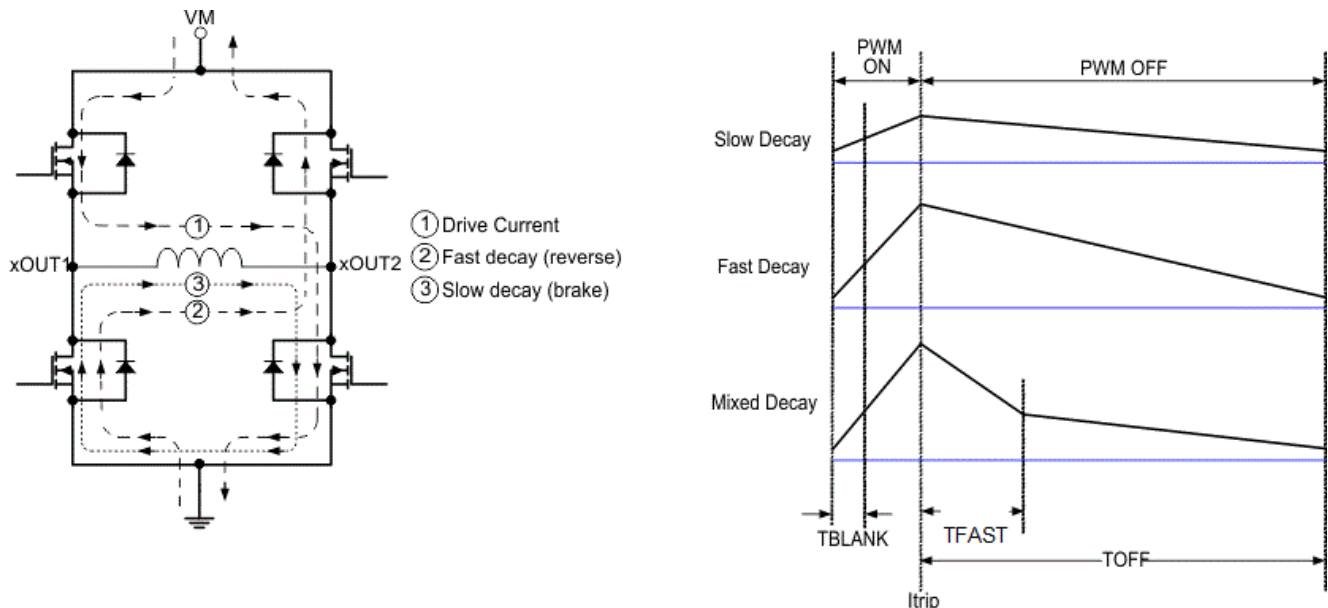

Figure 7-6. Decay Modes
During PWM current chopping, the H-bridge is enabled to drive through the motor winding until the PWM current chopping threshold is reached. This is shown in Figure 7-6, Item 1.
Once the chopping current threshold is reached, the H-bridge can operate in two different states, fast decay or slow decay. In fast decay mode, as soon as the PWM chopping current level is reached, the H-bridge reverses state by switching on the opposite arm MOSFETs to allow the winding current to flow in the opposite direction. As the winding current approaches zero, the H-bridge is disabled to prevent further reverse current flow. Fast decay mode is shown in Figure 7-6, item 2. In slow decay mode, the winding current is re-circulated by enabling both low-side MOSFETs in the H-bridge. This is shown in Figure 7-6, Item 3.